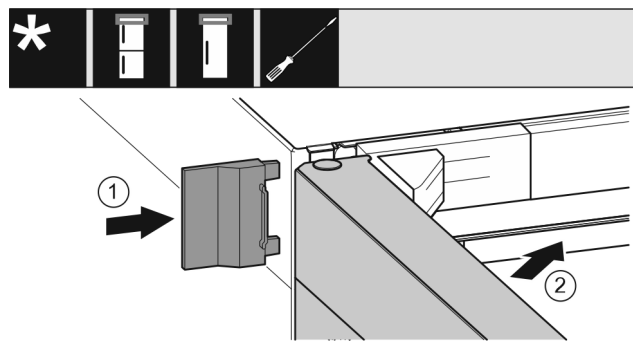

Fig. 34
- ▶ Slide on the outer cover. Fig. 34 (1)
- ▶ Close the upper door. Fig. 34 (2)